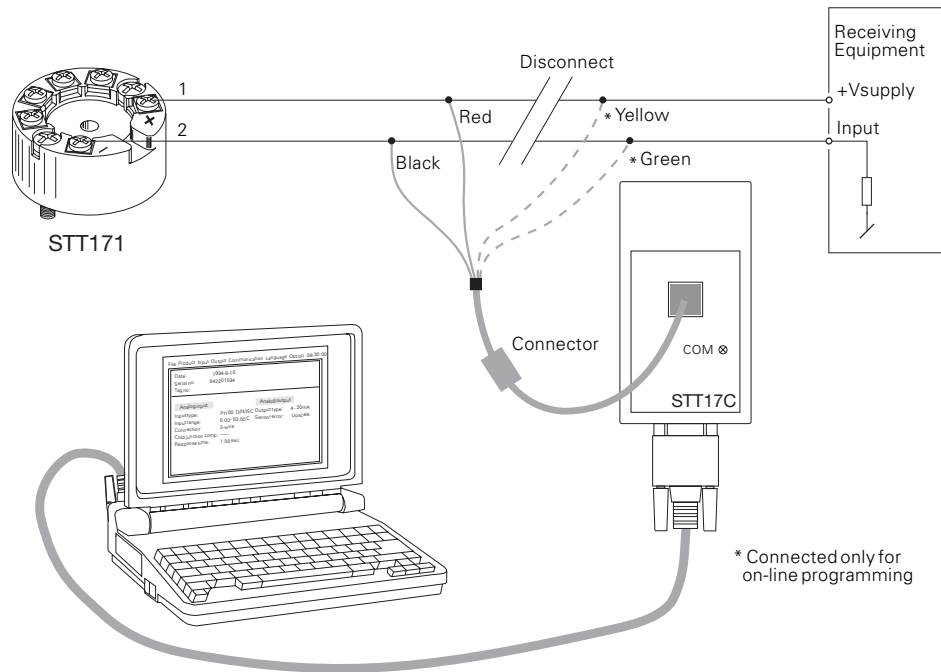

Figure 1-4 Programming
| Figure 1-4 | Programming | 4 |
- For programming, please refer to Figure 1-4 and the help function in STT17C.